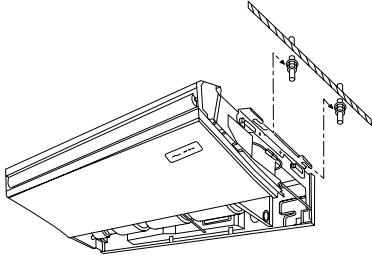

Fig. 3-6
1) Directly suspending the unit (Fig. 3-6)